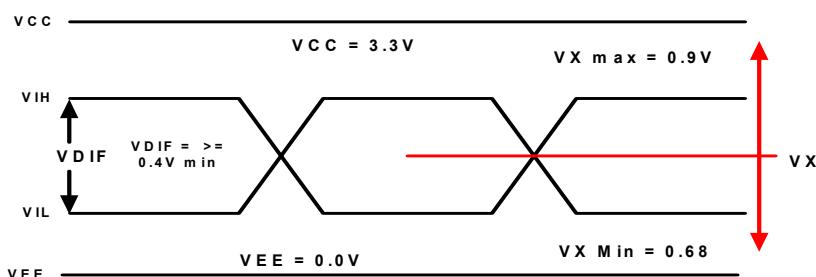

Figure 2. HSTL Differential Input Waveform Definitions
9. $V_X(AC)$ is the crosspoint of the differential HSTL input signal. Normal AC operation is obtained when the crosspoint is within the $V_X(AC)$ range and the input swing lies within the $V_{DIF}(AC)$ specification. Violation of $V_X(AC)$ or $V_{DIF}(AC)$ impacts the device propagation delay, device and part-to-part skew. Refer to Fig. 2.